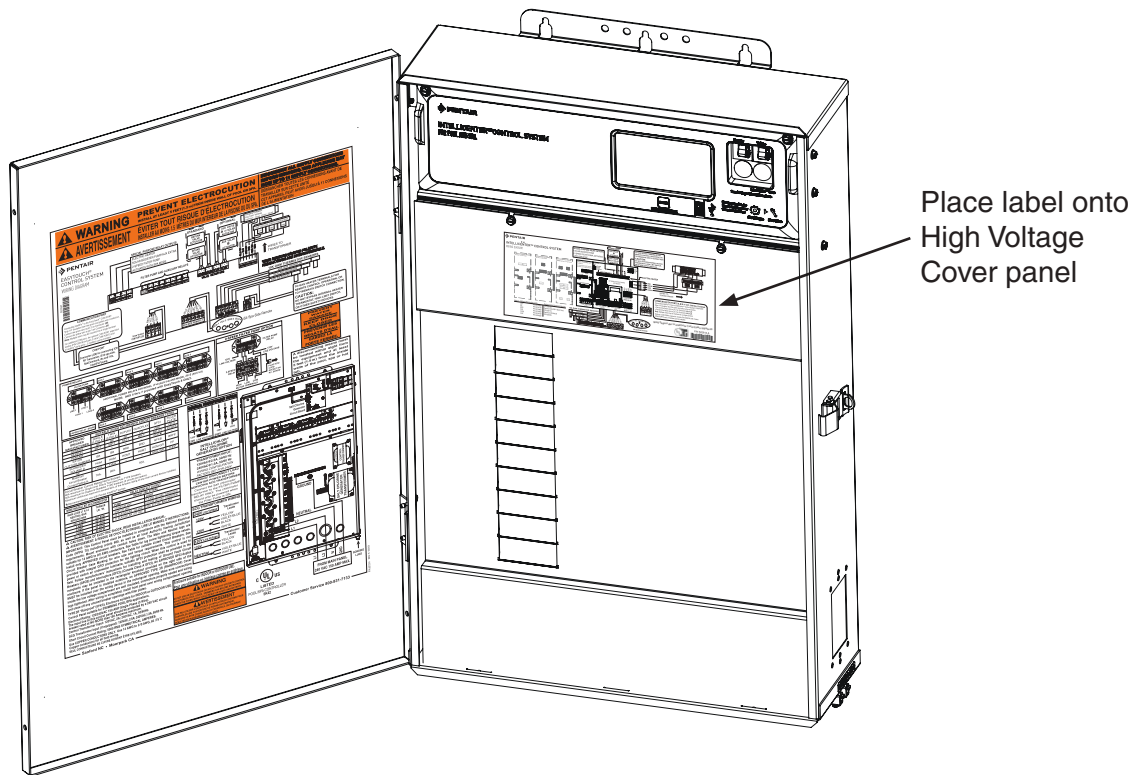

Figure 10. Load Center (Legacy 2003 - 2012)
2. Affix the wiring label ((7), P/N 522612) onto High Voltage Cover panel. See Figure 10.